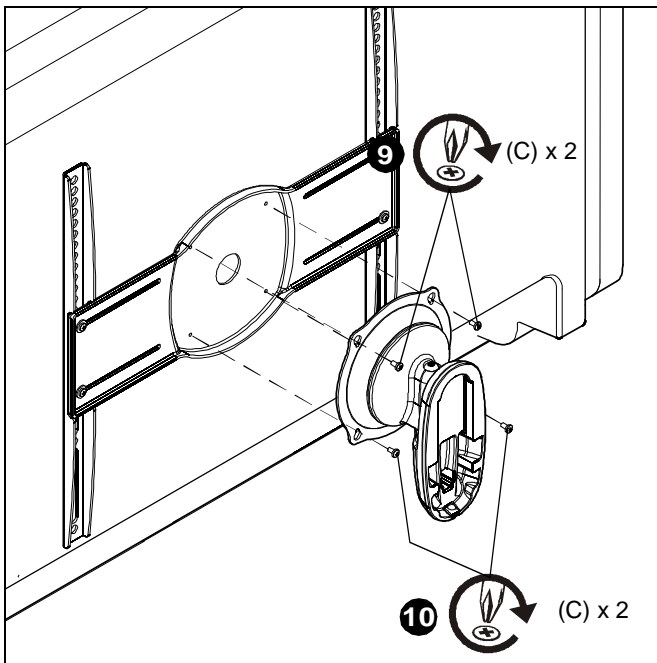

Figure 4
9. Attach J-Series mount to JSBU using two M4 x 8mm Phillips head cap screws (C) in the upper two mounting holes. (See Figure 4)
10. Complete attachment of J-Series mount using two M4 x 8mm Phillips head cap screws (C) in the lower two mounting holes. (See Figure 4)